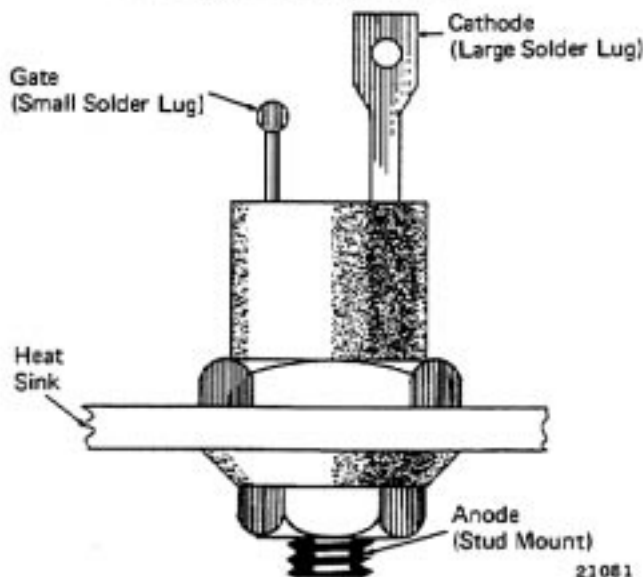

Fig. 15 - Silicon Controlled Rectifier Terminals 21081
- b. Connect negative lead of test light to anode (stud mount) of SCR1, Fig. 15. It is not necessary to physically connect the test lead to the anode. Wire tagged with the number 5, removed from the printed circuit board, is common to the anode of both SCR's.
- c. Connect positive lead to cathode (large solder lug) of SCR1, Fig. 15.
- g. Connect a jumper to wire tagged with the number 5 (anode of SCR). Touch other end to gate (small solder lug) of SCR being checked, Fig. 15.